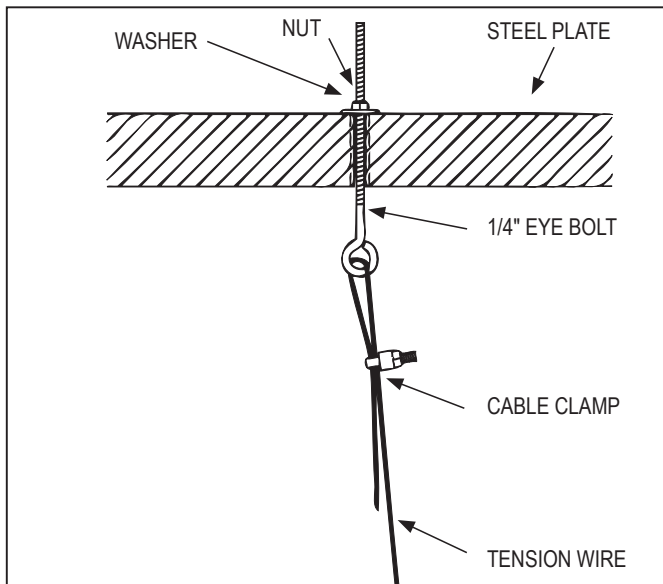

Figure 10
4. Once the vent stack has been lowered into the chimney, install a steel support plate over the top of the chimney. Run the tension wires through the anchors as shown in Figure 10.